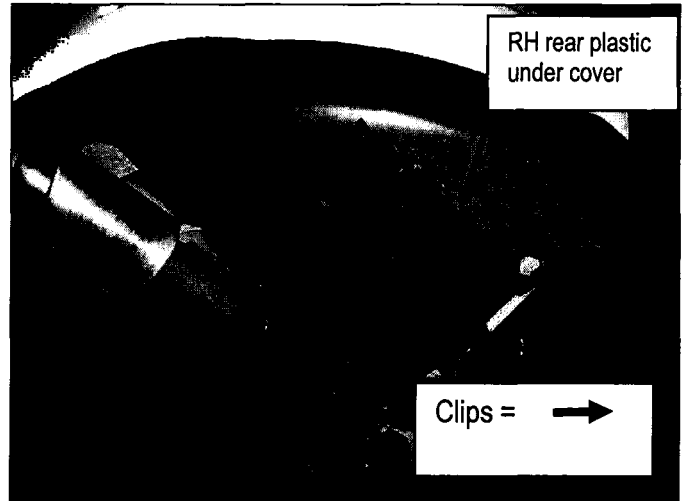

Figure 4
4. Release clips and remove the passenger (RH) side rear plastic under cover (see Figure 4).